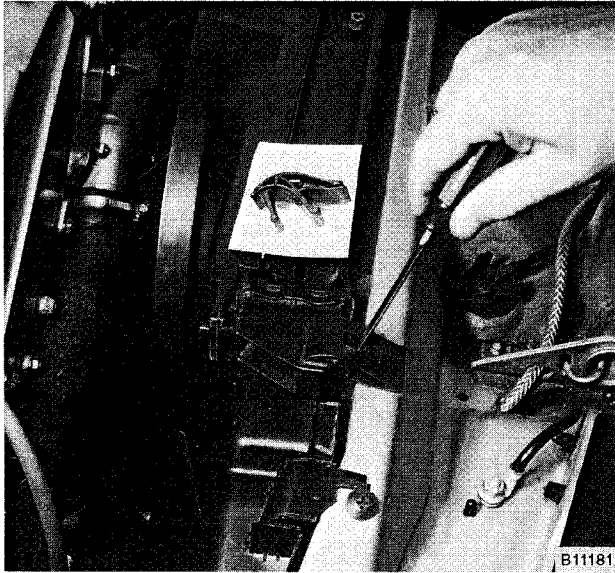

Fig. 22. Radiator retaining clip being removed. Push down and pull screwdriver forward to release clip.
7. Carefully pry out radiator retaining clips from top of radiator. See Fig. 22.